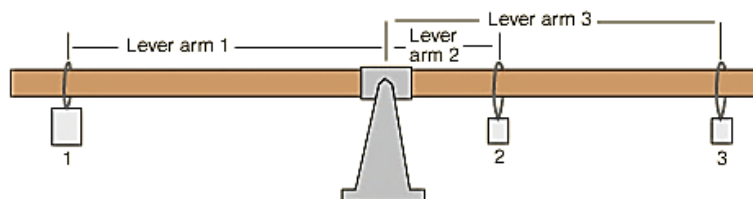

Figure 4
2. Suspend three masses from the meter stick as indicated in the sketch (Figure 4) and move them until you balance the meter stick. Record the mass values and their positions.